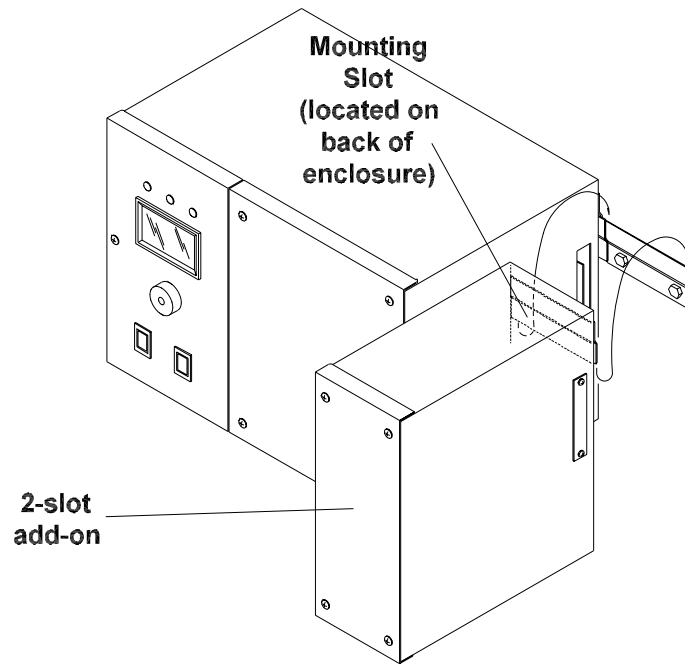

Figure 3.4 Hanging the 2-slot add-on on the Interlocking Rail
Step 5: Hang the 2-slot add-on on the second rail as shown in *figure 3.4*.